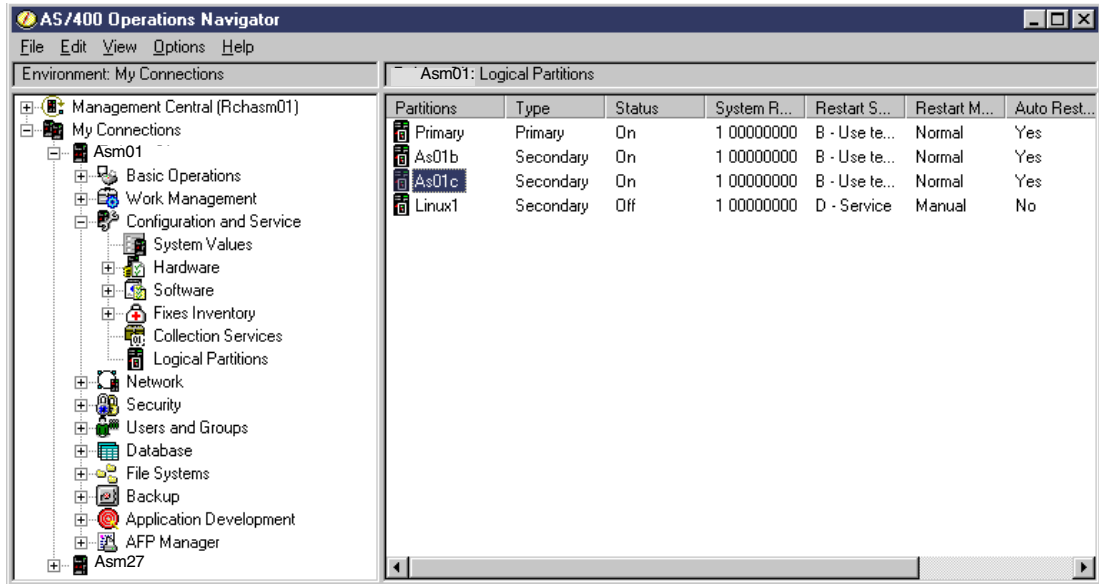

Figure 10-9 Operations Navigator Configuration and Services with logical partitions selected
2. Expand the **Configuration and Services** entry and select the logical partitions entry as shown in Figure 10-9.